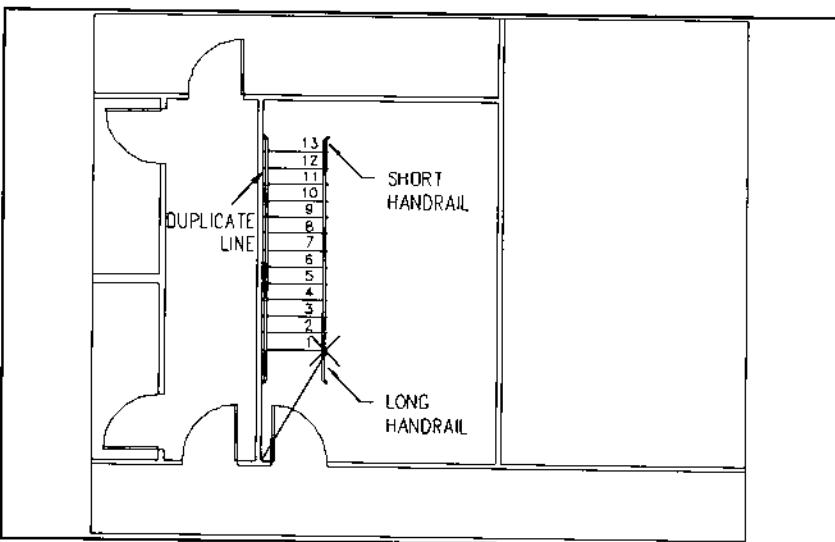

Figure 59.
7. The completed 2D stair is shown in Figure 59.
- > Enter handrail type Long/Short/L-Shaped/Corner/User/ Again: S **[as shown in Figure 59 for the top right handrail]**